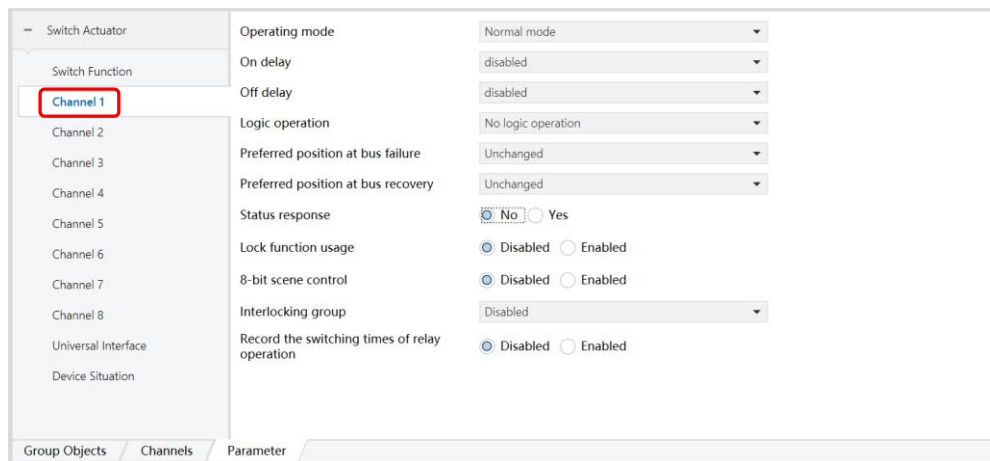

Figure 6.1.3
3) Click the options in the red block above to set the parameters of each circuit. Take Channel 1 as an example, as shown in figure 6.1.3